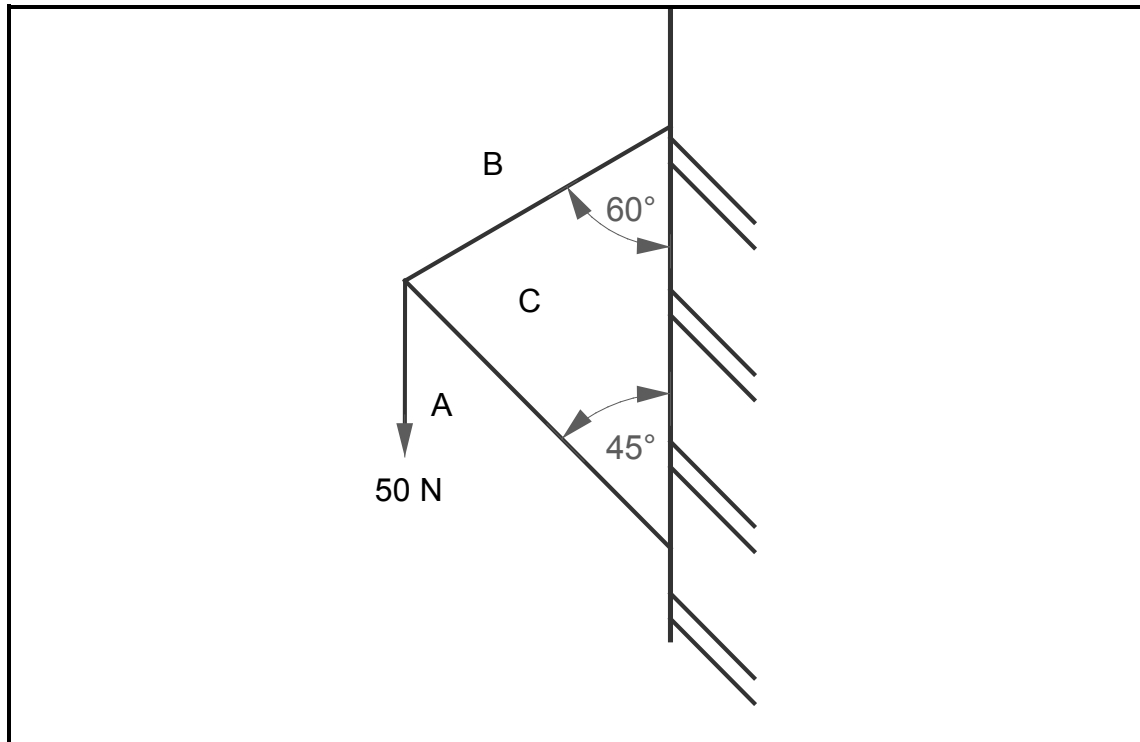

FIGURE 5.2
5.2 FIGURE 5.2 below shows the space diagram of a cantilever frame.